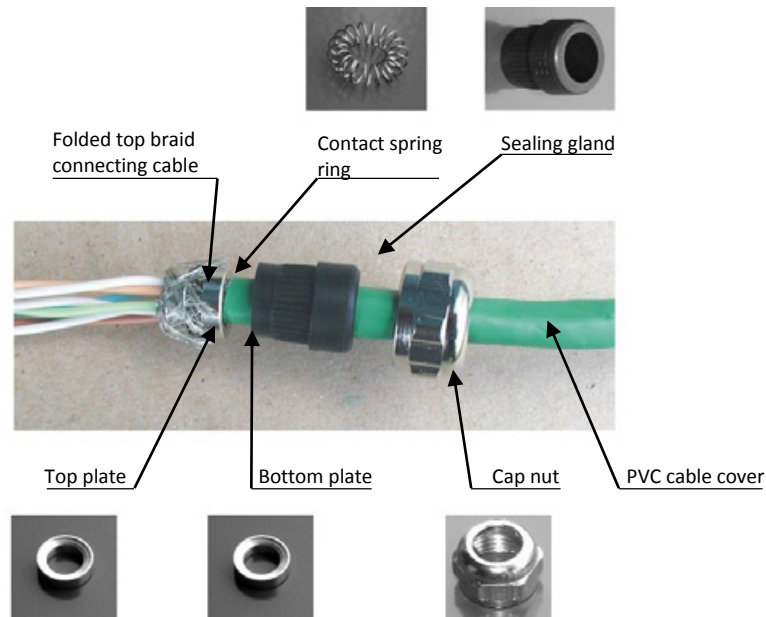

Figure 24 The grommet installation
- The twisted shield will be untwisted and released somewhat. Then it will be pulled over the washers on the cable and shortened at the bottom washer (figure 24). No wire of the shielding must go over the bottom washer, in order to tighten the sealing grommet by the pull-over nut well on the cable, and thus seal the grommet properly.